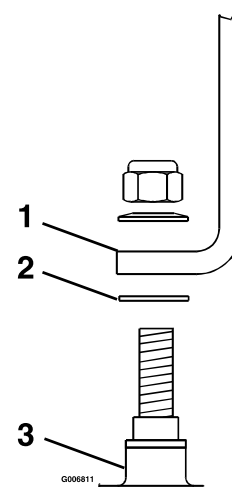

Figure 5
1. Remove the 3/8 inch nyloc nut and the spring disc washer from the stud on top of the transmission. Install the shifter lever through the slot in the shifter lever plate and onto the stud on top of the transmission. Be sure the square-hole washer remains between the lever and the transmission. Replace the spring disc washer and the nyloc nut (Figure 5). Torque the 3/8 inch nut to 35 ft-lb (47 N-m).